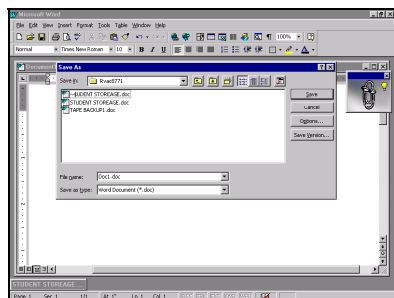

FIGURE VI.6
- 9) The folder name will appear in the small "Save in:" window. (see figure VI.6)